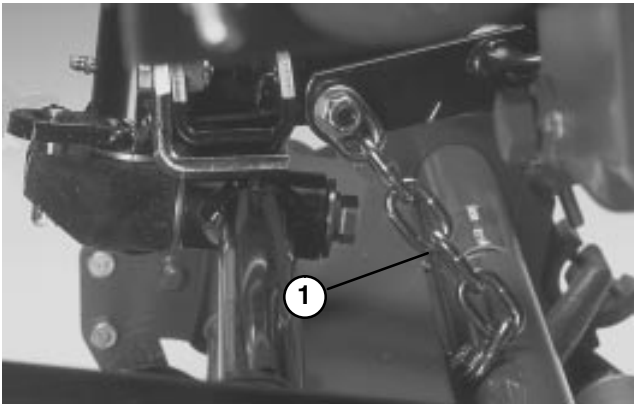

Figure 13
11. Detach chain from lift arm and secure it to cross tube on each rear cutting unit with a capscrew, flatwasher and locknut (Fig. 13).